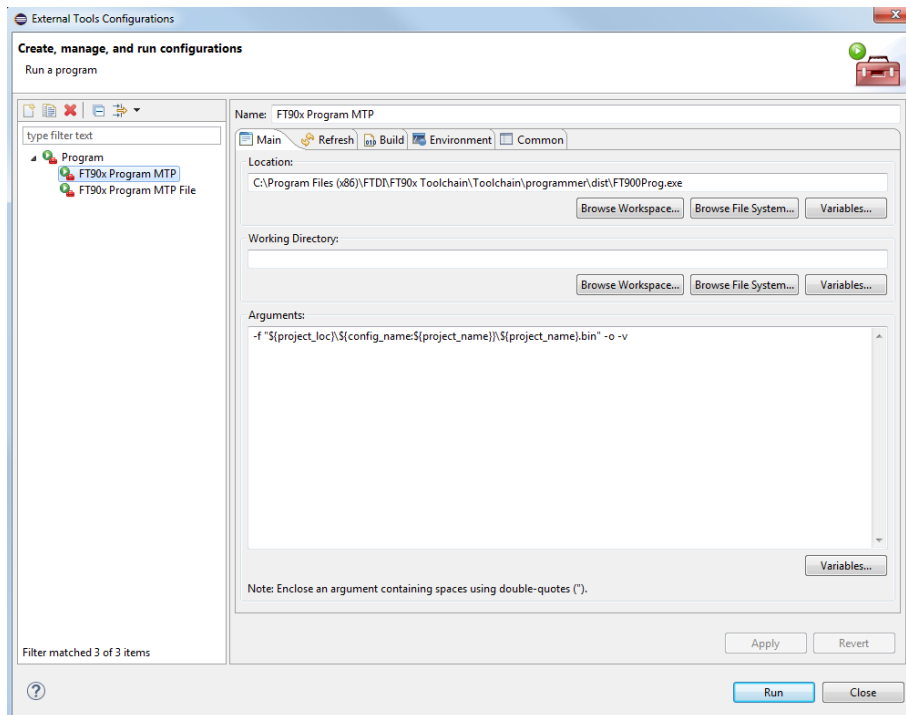

Figure 7.2 FT900 External Tool Configuration
- Enter the details as shown in Figure 7.2 as an example.